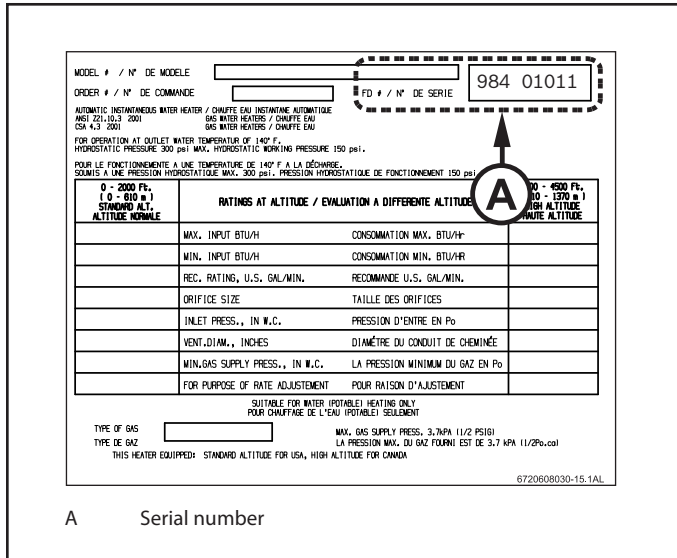
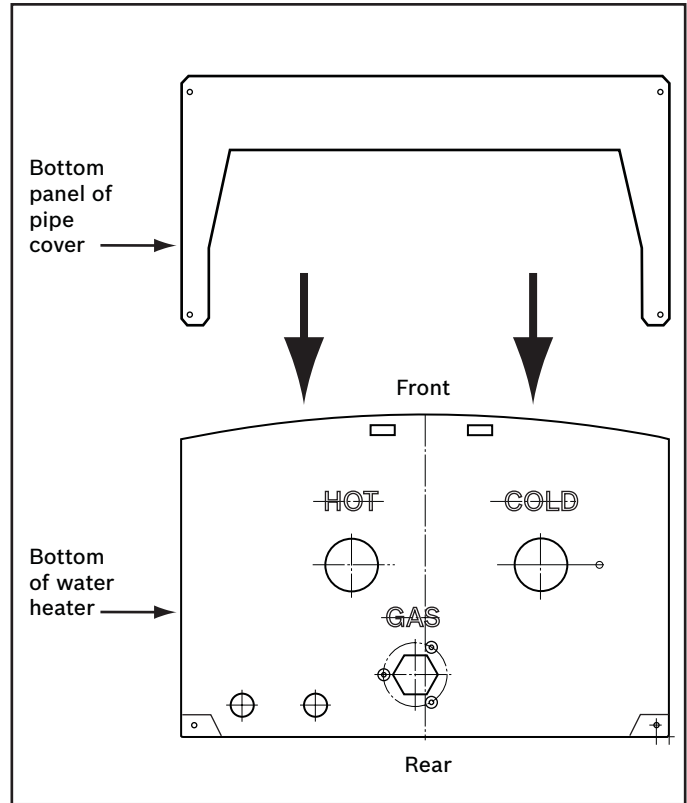

Fig. 2 Rating plate sticker with serial number (right side of heater)
Fig. 3 Using bottom panel as drill template
2. Water heaters listed in Section 1.2 with date codes FD984 and later are equipped with screw holes for the pipe cover. The FD code is the first 3 numbers in the appliance's serial number (see Fig.2, pos. A). For all earlier models, use the bottom panel of the pipe cover as a template to drill four  $\frac{9}{64}$ " diameter holes into the bottom of the water heater. (See Fig. 3).